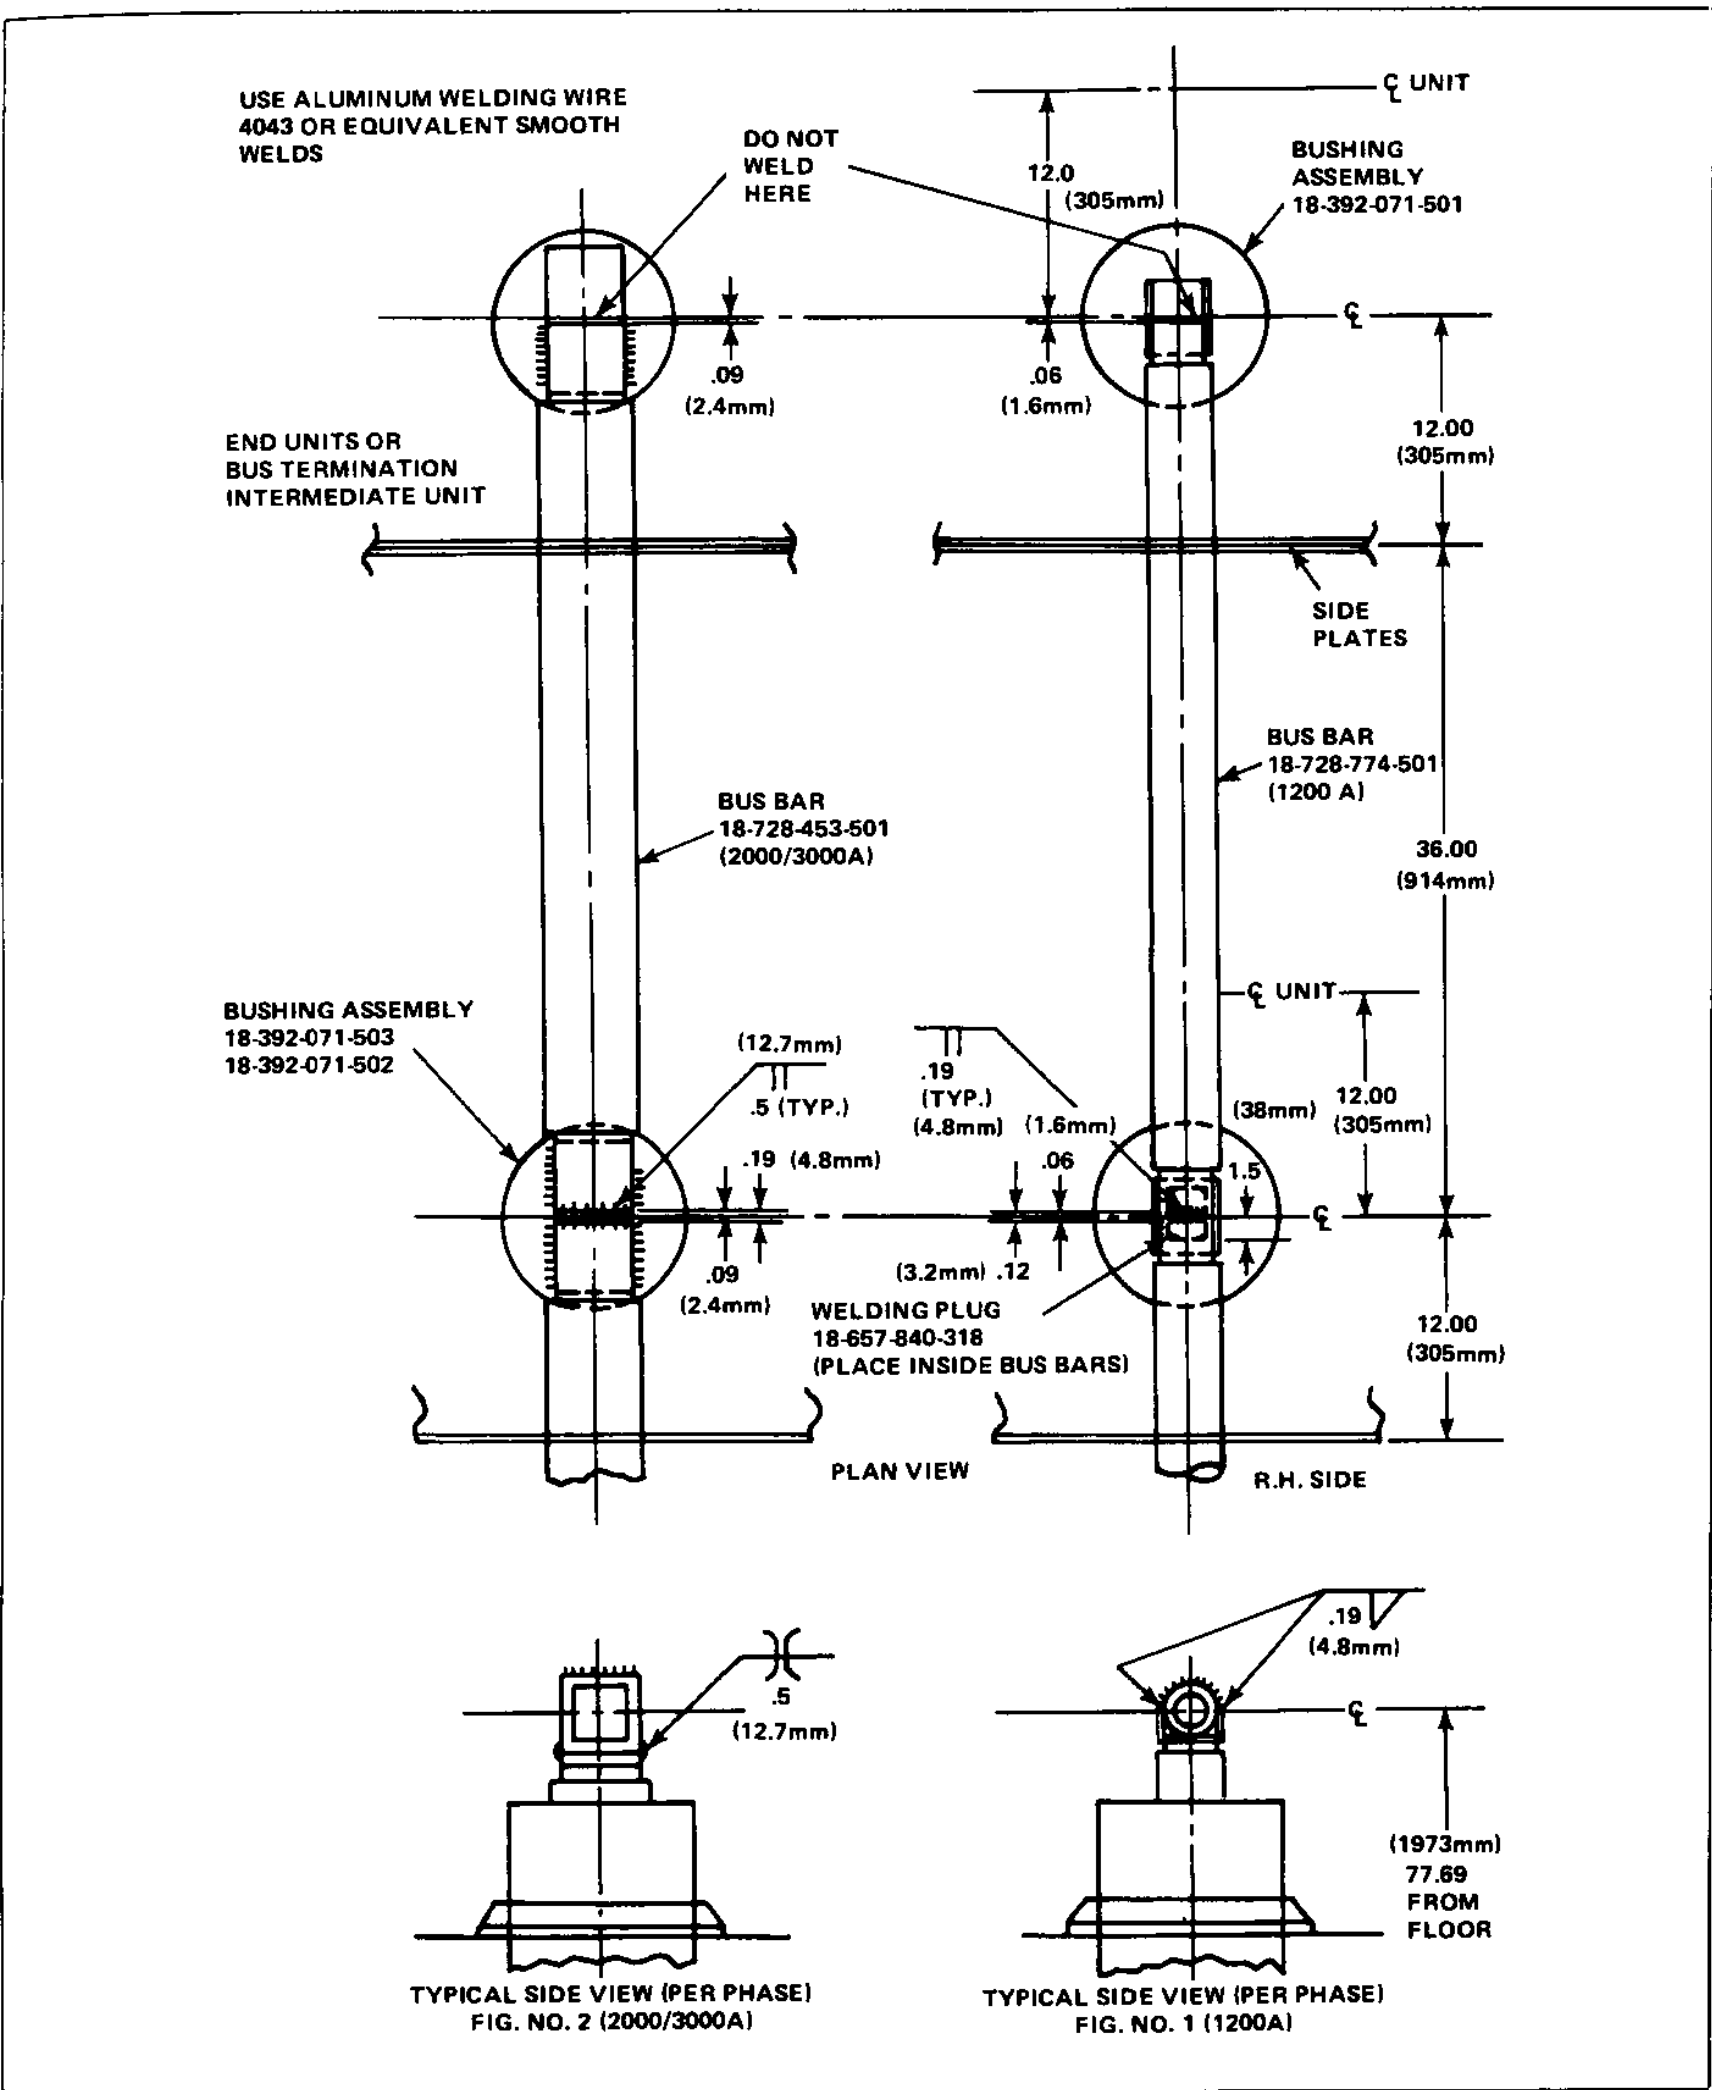

Figure 22. Shipping Split Drawing (Main Bus Welding)
- 5.4.1 The welding sizes, types of joint, welding conditions and typical number of passes are given in figure 22.